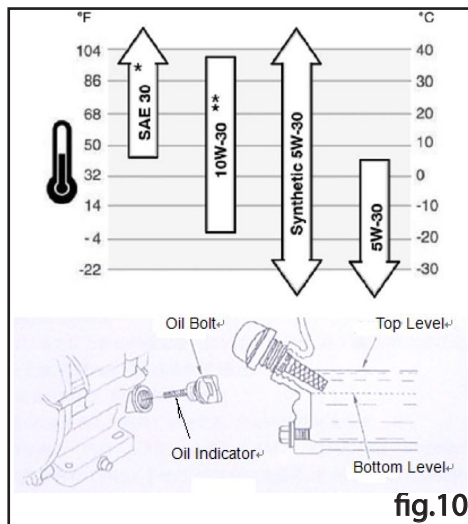

fig.10
1. Checking/Adding Oil (Figure 10)